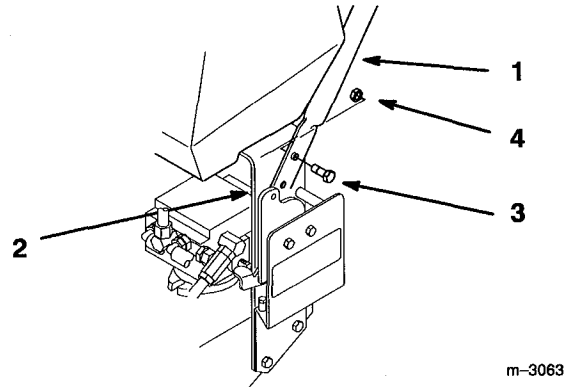

Figure 2
1. Align upper handle with mounting holes in rear frame (Fig. 2). Select high, medium or low position for lower mounting hole.
2. Secure each side with (2) 3/8-16 x 1" (26mm) flange bolts and flange nuts (Fig. 2). Torque bolts to 25 ft. lbs. (34 N.m).